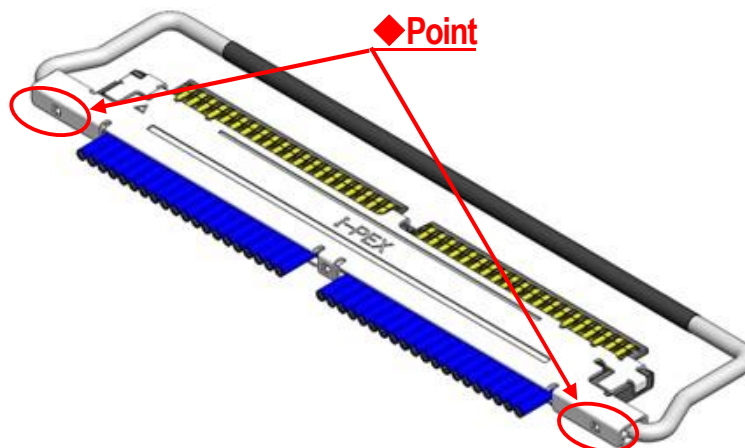

Fig.9 Soldering of Shell-A and Shell-B
- ④ Soldering shell-A and shell-B with the soldering iron at all designated points is recommended. (Fig.9 ◆point)